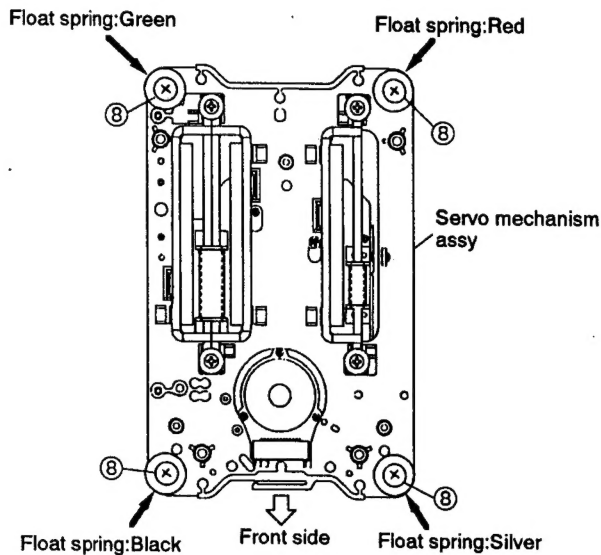

Fig. 5
5. Remove the four fixing screws ⑧ of the servo mechanism assy (Fig. 5).